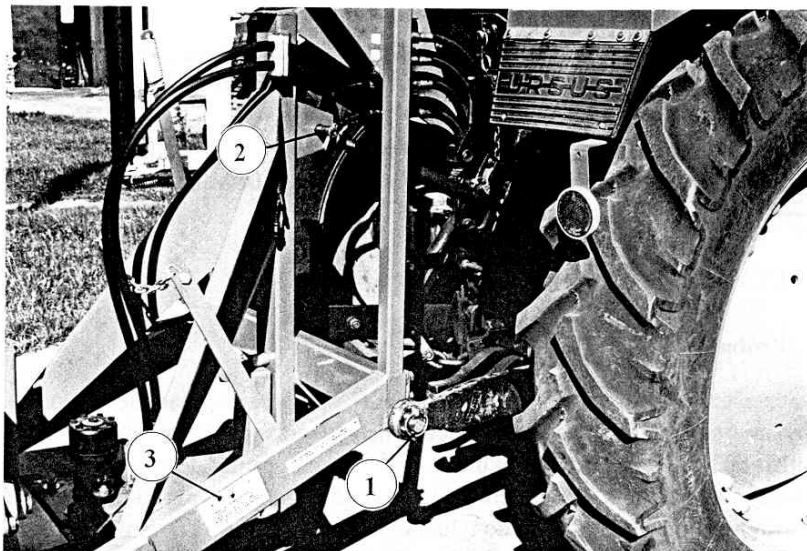
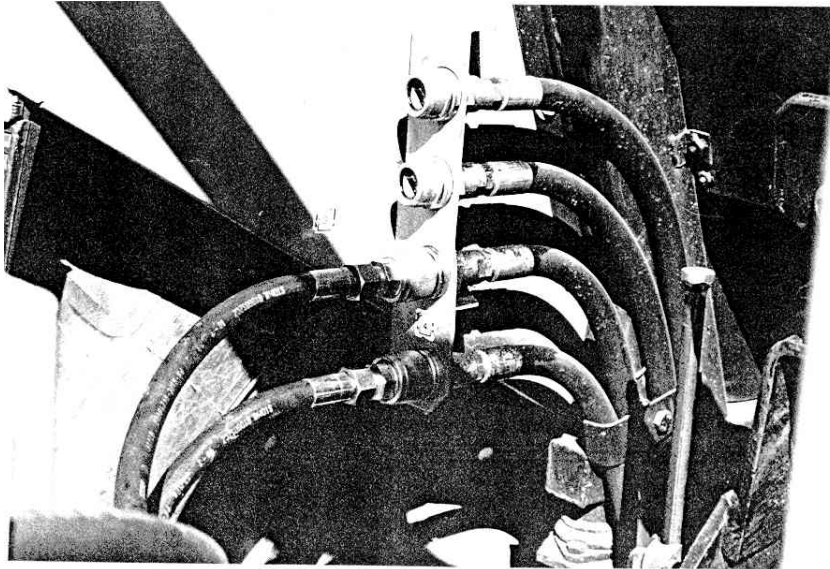

Fig. 22. Hitching of the bale wrapping machine with the tractor:
Fig. 23. Connecting hydraulic hoses to the tractor
- ✓ put both ends of the lower links with the tractor ball-and-socket joints on the two lower bolts of the wrapping machine and secure them with cotter pins (from the coupling bar pins) (Fig. 22 - item 1), adjust the length of the upper tractor connector and connect its end with the coupling plates on the main frame of the wrapping machine with a shackle bolt and secure with a cotter pin (Fig. 22 – item 2), the plugs of the hydraulic installation quick attaching couplers should be placed in the sockets of the tractor's hydraulic system valves (see Fig. 23)